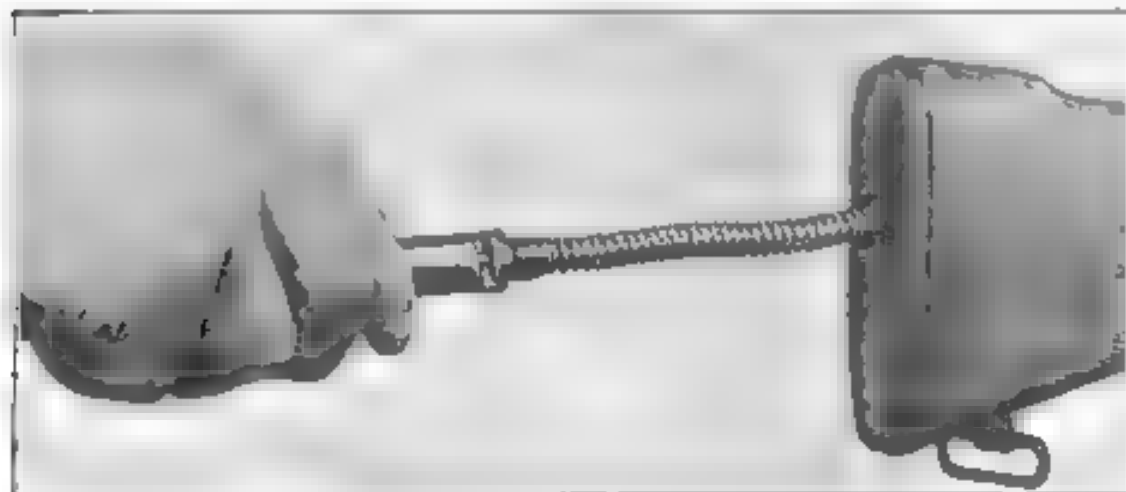

Fig. 114
a) **Return springs.** — Using the special tool provided, remove the butt screw; hold the tool firmly to control the action of the springs (fig. 114).
- Insert the stem of the tool in the return springs and compress (fig. 114).